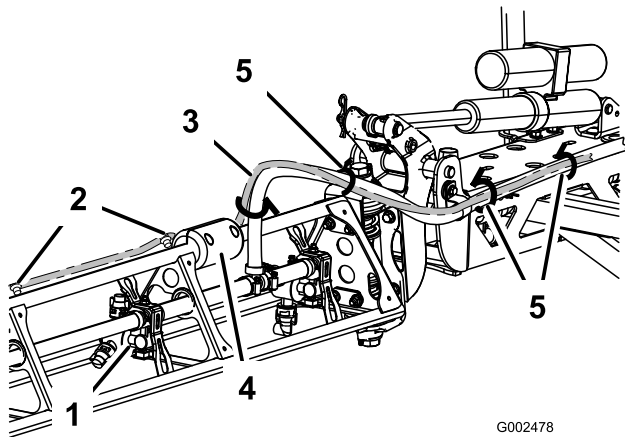

Figure 3
7. Route the sensor wire along the top of the boom support to the slide block (Figure 3). Secure it to the top of the boom using clips provided.
8. Route the sensor wire below the slide block to the boom supply hose and on to the center boom assembly. Secure the wire harness to the boom hose with the cable ties (Figure 3).